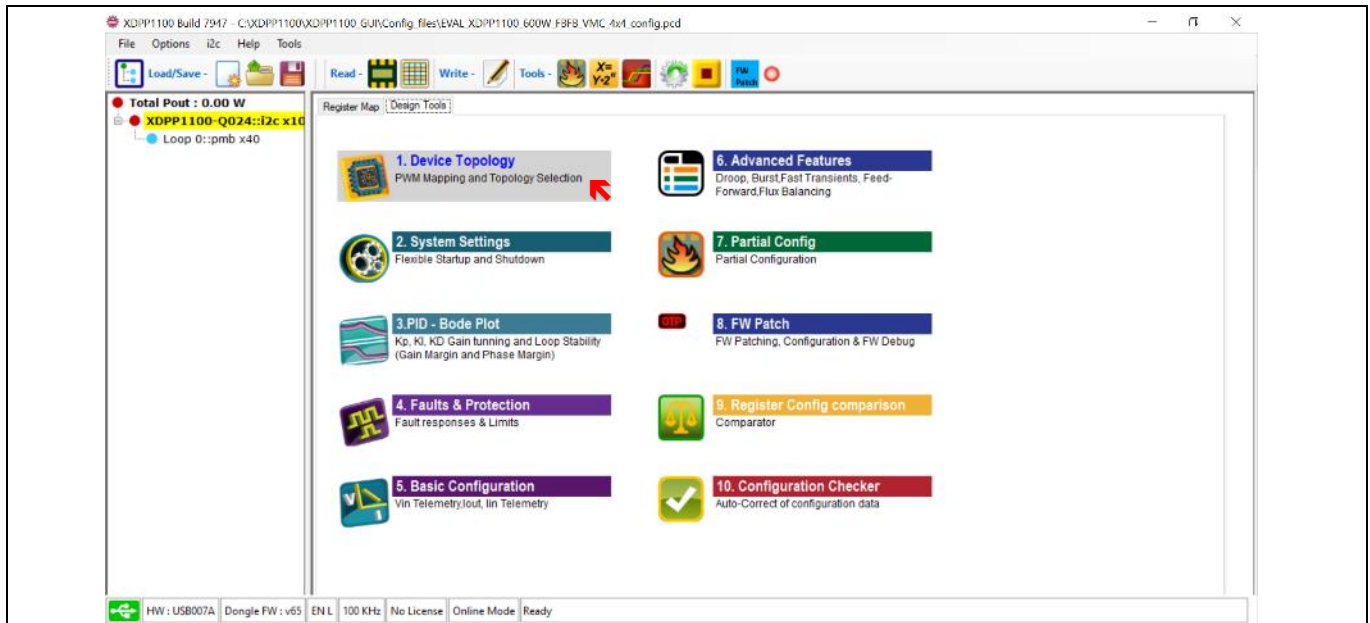

Figure 16 GUI Design Tools feature and Device Topology (PWM mapping and topology)
This section presents different design tools integrated with the GUI to configure the XDPP1100 digital controller to meet system requirements. The following sections are a part of the **Design Tools** window of the XDPP1100_GUI (**Figure 16**). These sections are designed as an introduction to familiarize users with and guide them to evaluate extensive programming options and design tool features provided for the XDPP1100 family of digital controllers. More detailed and comprehensive guidelines are provided in the documents available in the **Help** dropdown menu of the GUI.
- Click the **XDPP1100-Q024::i2c x10** (highlighted in yellow in **Figure 16**).